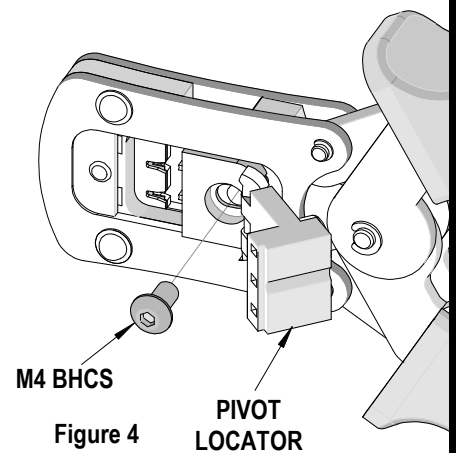

Figure 4
- Remove the M4 BHCS. See Figure 4.
- Place the new locator, (See Chart on page 2), on the hand tool. Install the M4 BHCS. See Figure 4.